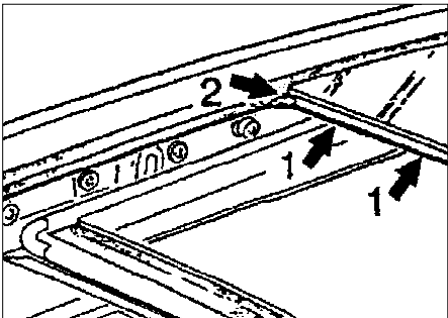

Figure 13
- Improper sealing of the rear window frame at the front upper area (arrow 1, figure 13).
- Possible openings on the front corners and / or the transition between the rear window and side seals (arrow 2, figure 13).